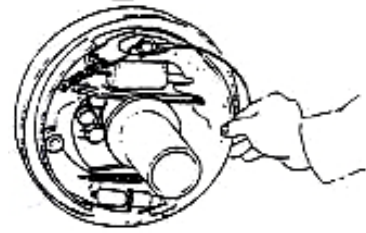

Figure 2
(2) Remove the shoe return spring, as figure 2